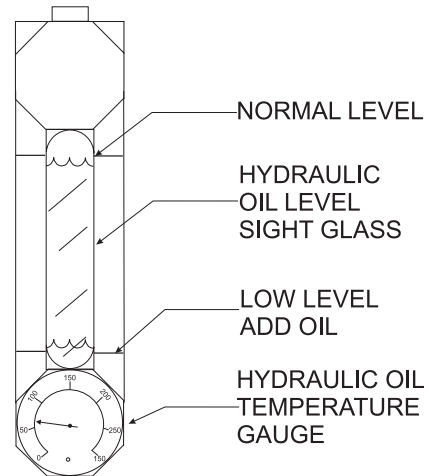

Figure 14. Hydraulic Oil Sight Glass
- Determine if the hydraulic oil level is low by observing the level of the oil in the **Hydraulic Oil Sight Glass** (Figure 14).